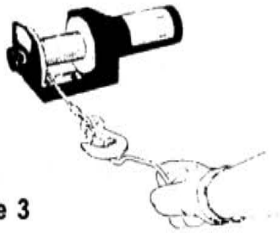

Figure 3
8. KEEP CLEAR OF WINCH, TAUT WIRE ROPE AND HOOK WHEN OPERATING WINCH. Never put your finger through the hook. If your finger should become trapped in the hook, you could lose your finger. ALWAYS USE THE HANDSAVER BAR when guiding the wire rope in or out (See Figure 3).